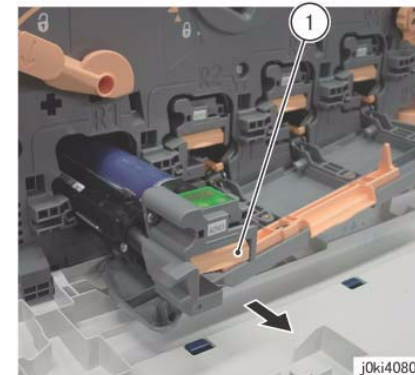

Figure 1 Remove the drum
6. Remove the drum. (Figure 1)